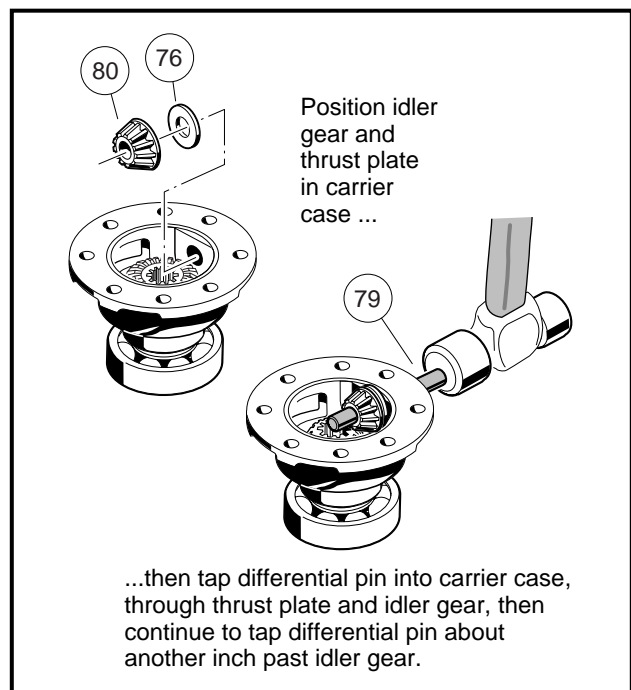

Figure 16-61 Idler Gear
3. Start the differential pin (79) into the carrier case by lightly tapping it in with a plastic or rubber hammer. Before the pin enters the inside of the carrier case, position the thrust plate (76) and idler gear (80) (**Figure 16-5, Page 16-4**) in the case and then continue tapping the pin through the thrust plate and idler gear as shown (**Figure 16-61, Page 16-27**).